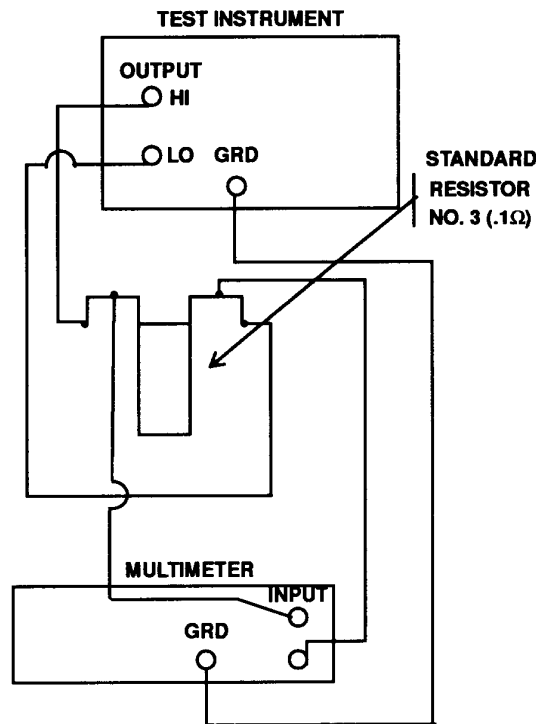

Figure 7. Dc current (1 and 2 A).
g. Connect equipment as shown in figure 7.